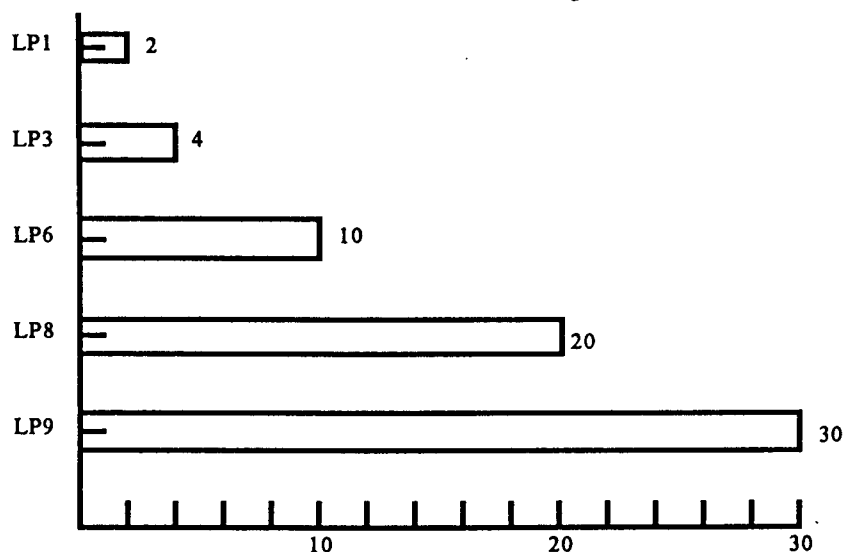
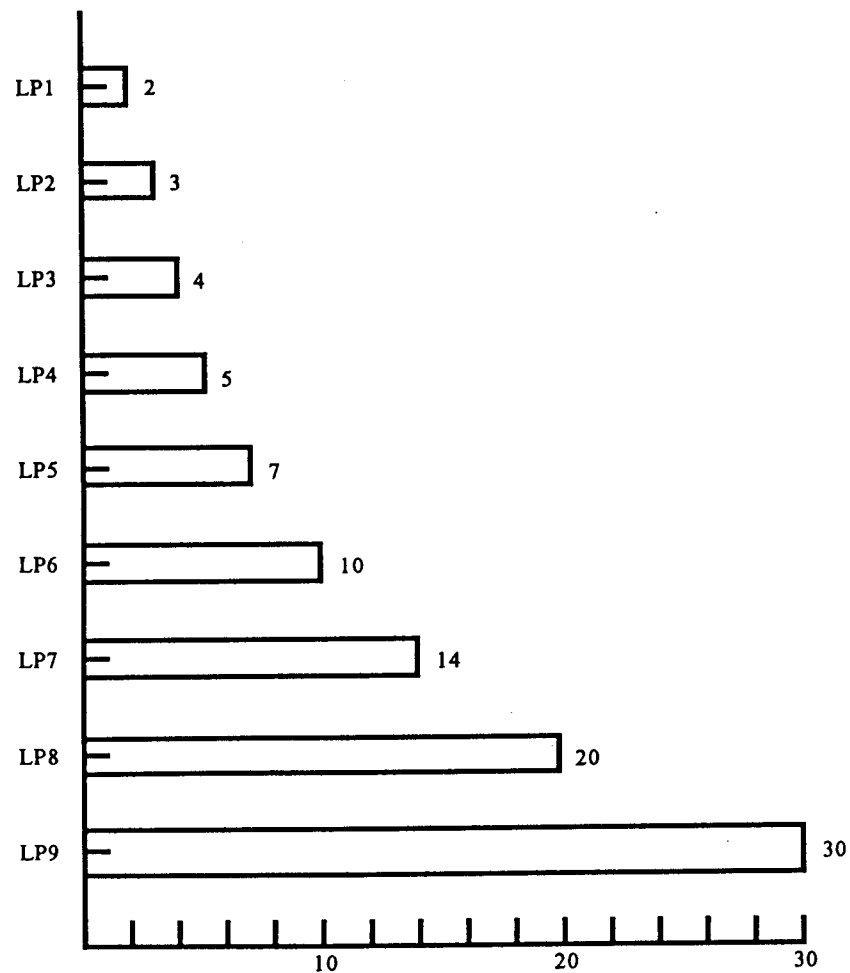

Figure B1: Low Pass Filters of the KWM-380.
Figure B2: Low Pass Filters for the HF-380
necessary time delays in order to prevent "hot switching" of the relays. The low pass filter-directional coupler assembly is located at the rear of the card cage. A brass plate goes across the full width of the cage. The KWM-380 contains one filter board (A1) with five filters designated LP1, LP3, LP6, LP8, and LP9. It is located on the left side and is mounted on the front of the brass plate. The HF-380 contains a second filter board (A3) with additional filters designated LP2, LP4, LP5, and LP7. If present this board is to the right of the (A1) filter. The assembly under discussion also includes a directional coupler board (A2) which is located on the left side and to the rear of the (A1) low pass filter board. The purpose of the filters, of course, is to reduce harmonic and spurious emissions. Figures B1 and B2 show the low pass filter cutoff frequencies for the KWM-380 and the HF-380 respectively.
Kiron Corporation manufactures three different memory boards which will now be described. The information to be discussed is summarized in Table B1 and Figures B1 and B2. A particular low pass filter switches out of the circuit at the frequency noted and the next higher filter switches in. For example in an HF-380 LP1 is OUT at 2 MHz and LP2 is IN at 2 MHz, see Figure B2. For a frequency between 2 and 3 MHz LP2 is IN. The normal WARC-ROM-equipped KWM-380 operates as shown in the top portion of Table B1. Note that although the nominal cutoff frequency of LP3 is 4.0 MHz, in a KWM-380 this filter is kept in-line through 4.25 MHz in order to provide harmonic suppression during 4.00 to 4.25 MHz MARS operation. This is possible due to the slow roll-off of the filter. In a similar manner LP6 is kept in-line to 10.15 MHz in order to accommodate the new 30 meter amateur
The entries in the middle part of Table B1 are for the Kiron Model M3 which is intended for installation in a KWM-380 which has only the normal (A1) filter board installed and with the diodes on the Control Card still in place. However, the Kiron M3 permits transmitting on all frequencies from 1.8 to 29.99 MHz. A careful examination of Figure B1 and Table B1 will reveal the operation. Note that we have retained the filter selection frequencies from the normal KWM-380, see upper part of Table B1, so, for example, transmission at
4.10 MHz would still use LP3. However for any frequency between 4.25 and 6.75 MHz the M-3 will select LP6 which has a cutoff of 10 MHz. Thus for the range 4.25 to 5.00 MHz there will be no second harmonic suppression since the harmonic is below 10 MHz. For transmission between 10.15 and 20 MHz filter LP8 is selected. Note that for frequencies above 14 MHz the same filters LP8 or LP9 are selected by all models including the HF-380, in other words the extra HF-380 filters are all below this frequency as can be seen from Figure B2.